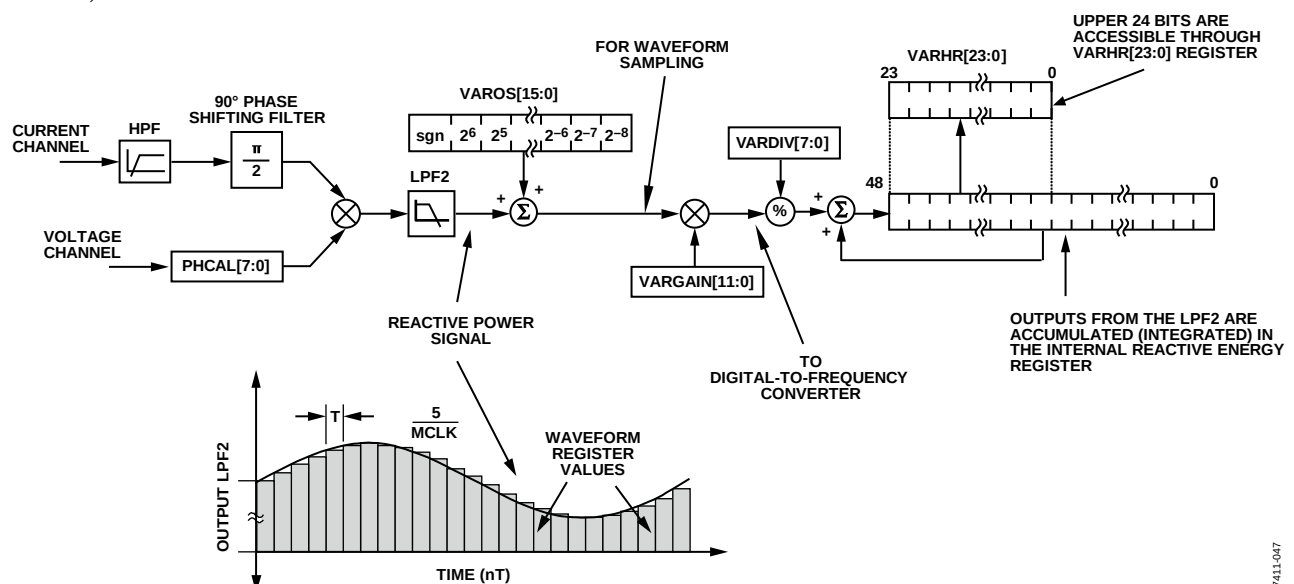

Figure 72. Reactive Energy Calculation
The instantaneous reactive power signal,  $q(t)$ , is generated by multiplying the voltage and current channels. In this case, the phase of the current channel is shifted by 90°. The dc component of the instantaneous reactive power signal is then extracted by a low-pass filter to obtain the reactive power information (see Figure 72).
Figure 72 shows the signal processing chain for the ADE5169/ADE5569 reactive power calculation. As explained in the Reactive Power Calculation (ADE5169/ADE5569) section, the reactive power is calculated by applying a low-pass filter to the instantaneous reactive power signal. Note that, when reading the waveform samples from the output of LPF2, the gain of the reactive energy can be adjusted by using the multiplier and by writing a twos complement, 12-bit word to the var gain register (VARGAIN, Address 0x1E[11:0]). Equation 23 shows how the gain adjustment is related to the contents of the var gain register.
The ADE5169/ADE5569 also incorporate a reactive power offset register (VAROS, Address 0x21). This is a signed, twos complement, 16-bit register that can be used to remove offsets in the reactive power calculation (see Figure 72). An offset can exist in the reactive power calculation due to crosstalk between channels on the PCB or in the IC itself. The offset calibration allows the contents of the reactive power register to be maintained at 0 when no power is being consumed.
The discrete time sample period (T) for the accumulation register in the ADE5169/ADE5569 is  $1.22 \mu\text{s}$  (5/MCLK). As well as calculating the energy, this integration removes any sinusoidal components that may be in the active power signal. Figure 72 shows this discrete time integration or accumulation. The reactive power signal in the waveform register is continuously added to the internal reactive energy register.
As shown in Figure 72, the reactive power signal is accumulated in an internal 49-bit, signed register. The reactive power signal can be read from the waveform register by setting the WAVMODE register (Address 0x0D) and setting the WFSM bit (Bit 5) in the Interrupt Enable 3 SFR (MIRQENH, Address 0xDB). Like the current and voltage channel waveform sampling modes, the waveform data is available at sample rates of 25.6 kSPS, 12.8 kSPS, 6.4 kSPS, and 3.2 kSPS.